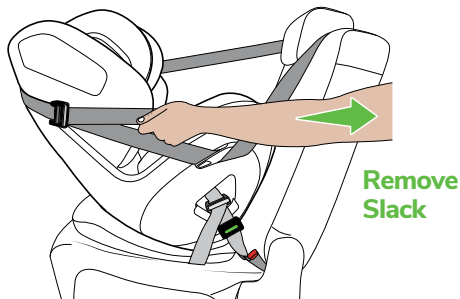

Figure 17
Step 1. Remove slack only. Do not over-tighten the top tether strap so that the restraint lifts up off the vehicle seat (Figure 17).